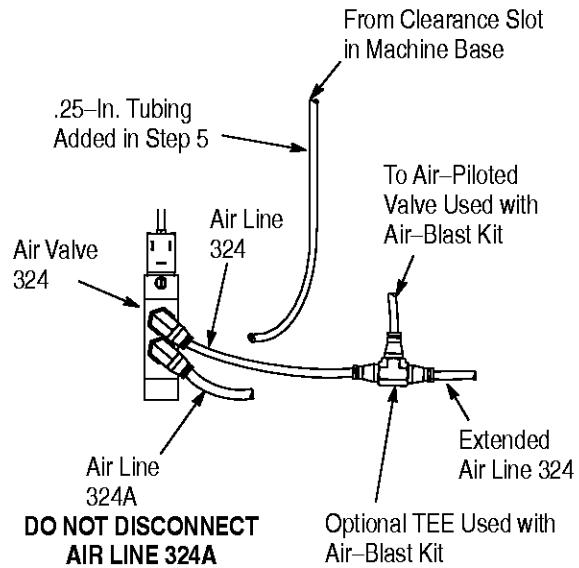

Figure 6
8. If optional air-blast kit is NOT installed, disconnect air line 324 directly from air valve 324 and connect the free end of the .25-in. tubing in its place. If optional air-blast kit is installed, disconnect the extended air line 324 from the optional TEE and connect the free end of the .25-in. tubing in its place. Refer to Figure 6.